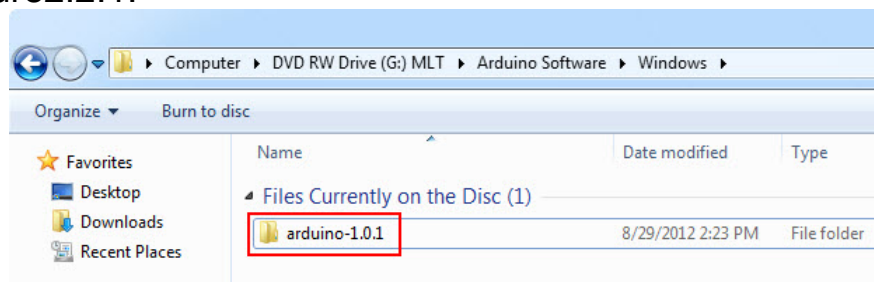

Figure2.2.1
2.2.2. Copy the Arduino Software from a free CD is choose folder “Arduino Software\Windows\arduino-1.0.1” into drive “C:\Program Files” as figure2.2.1.